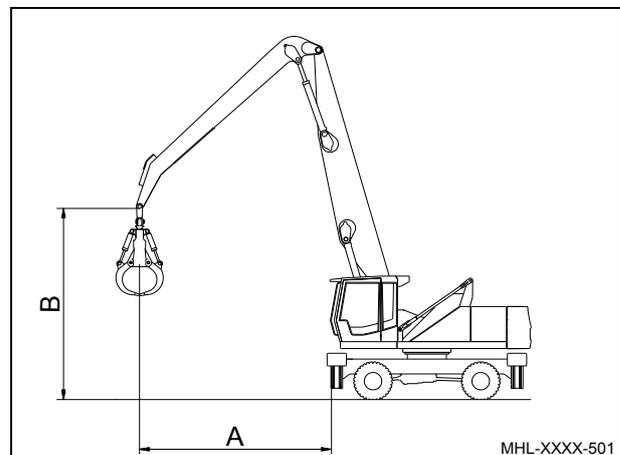

Fig. 143 Traversing position
- The "traversing" position represented in Fig. 143 provides the operator with optimum visibility during the traversing of the machine.